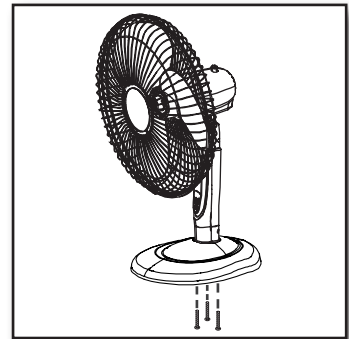

Figure 11.
2. Turn the Table Fan over and secure the 2 pieces together using the 3 Table Base Screws. **Figure 11.**